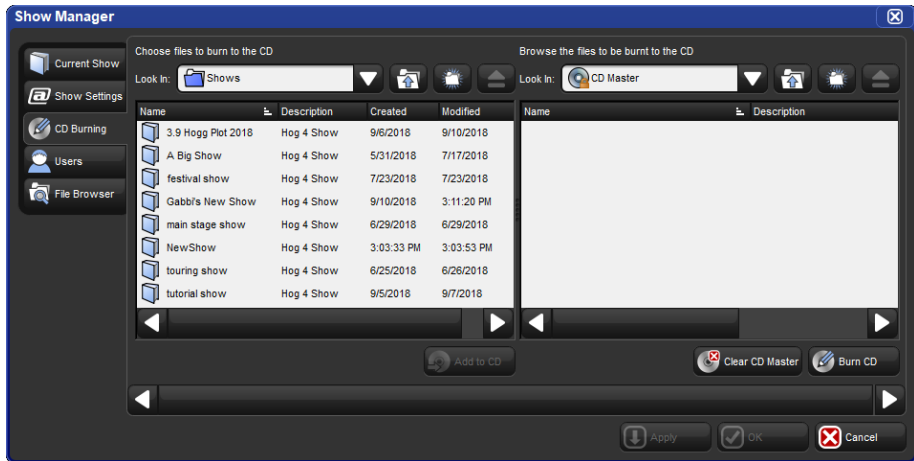

Figure 2.14. The CD Burning pane of the Show Manager window
1. Setup → Shows → CD Burning : see *Figure 2.14, "The CD Burning pane of the Show Manager window"*.